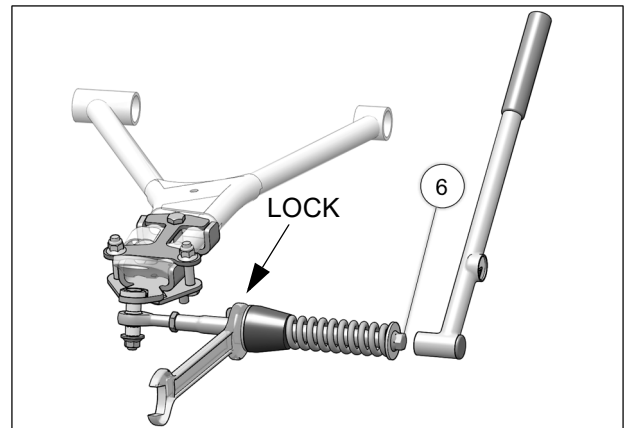

Fig. 19
10. Verify that spring assembly bolt (6) is tightened to the recommended torque specification: 75 N•m [55 lb•ft]. Make sure to lock in position, the large nut in front of the rubber cone damper. Refer to Fig. 19